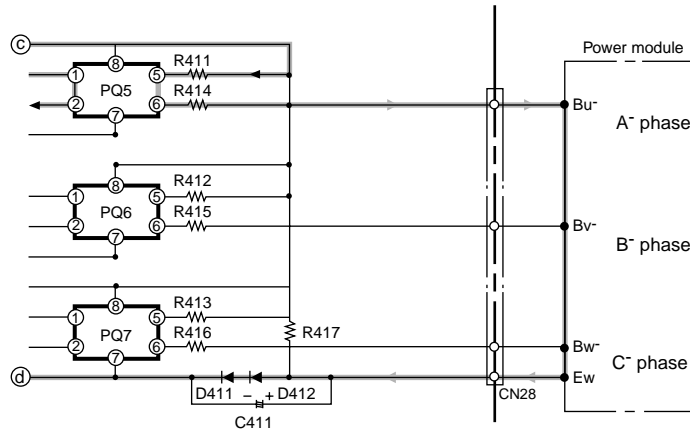

Fig. 7-4
(2) Lower Arm Drive Circuit
- Fig. 7-4 shows the lower arm drive circuit.
- When pin ③⑤ of the micro computer goes "Lo" → "Hi", a photocoupler between PQ601 pins ① and ② turns on and current flows to terminal (i) → R601 → PQ601 → R604 → power module's BU⁻ terminals → Ew⁻ terminals → D602 → D601 → terminal (k) and drives the lower arm transistors. (Fig. 7-4)
- The signals which turn on or off according to the position detection signals are output from pins ③③④③⑤ of the micro computer in the same way as in the upper arm drive circuit and are input to pins ① of photocouplers P601 and PQ602 via driver IC1.